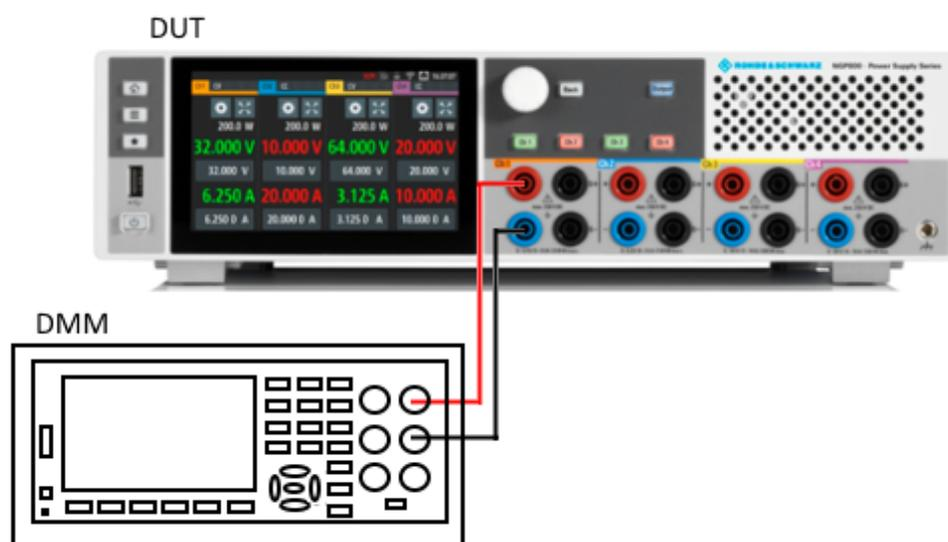
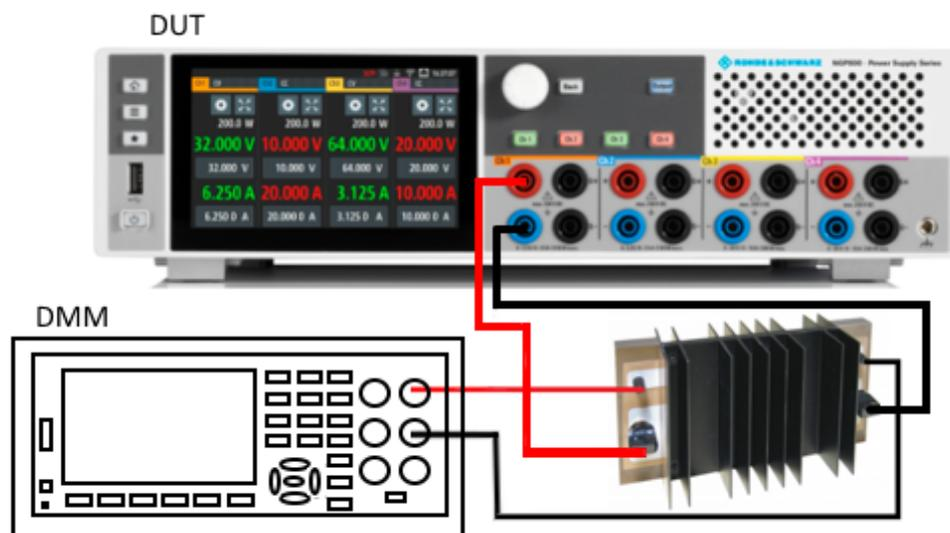

Figure 6-71: Voltage adjustment setup
Figure 6-72: Current adjustment setup
- Connect the DMM to the instrument and monitor the measured voltage or current. See Figure 6-71 and Figure 6-72.
- Depending on the types of adjustment (voltage or current), setup the instruments illustrated in Figure 6-71 or Figure 6-72.